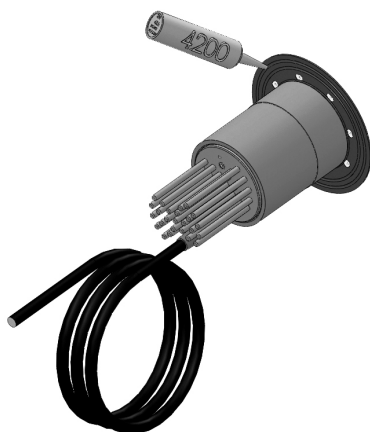

Fig.4.1
**TIP:** Make sure sealant fills in the recess grooves on the reverse of the light head (See Fig.4.1).